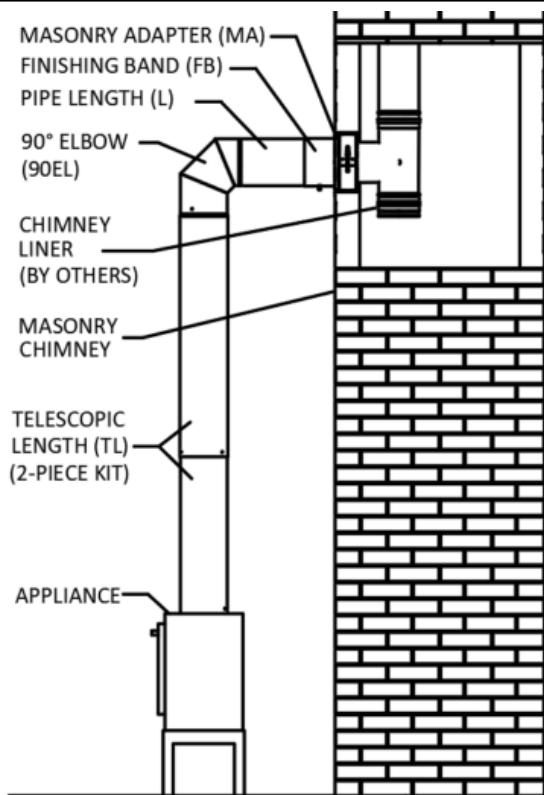

Fig 2A. Masonry Chimney Installation
- Masonry Chimney Connection (See Figure 2A)